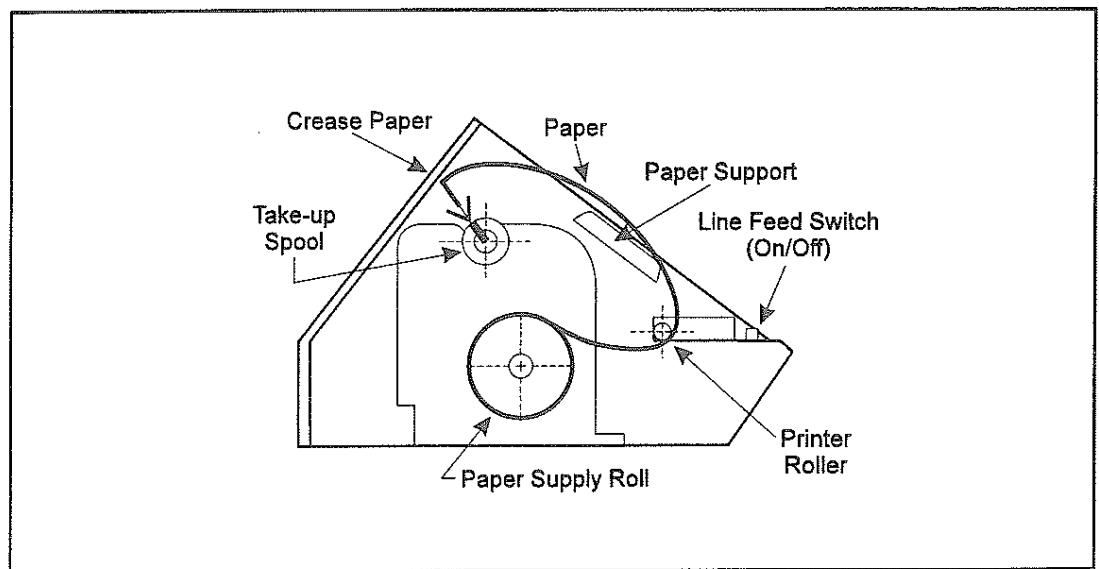

Figure 2-6
3. You will notice the word "PUSH" on the right side of the ribbon cartridge. Push down to remove a used cartridge (see figure 2-6).
5. Re-insert the paper into the print mechanism (see figure 2-6).